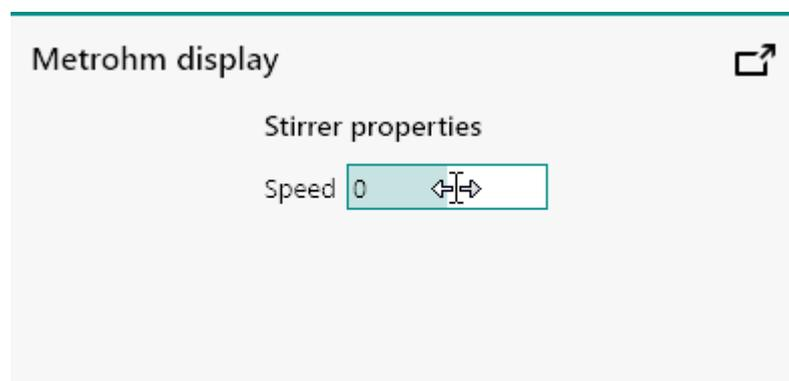

Figure 180 Adjusting the Speed with the slider
- **Slider:** by clicking and dragging the slider control provided in the **Metrohm display** panel (see Figure 180, page 157).